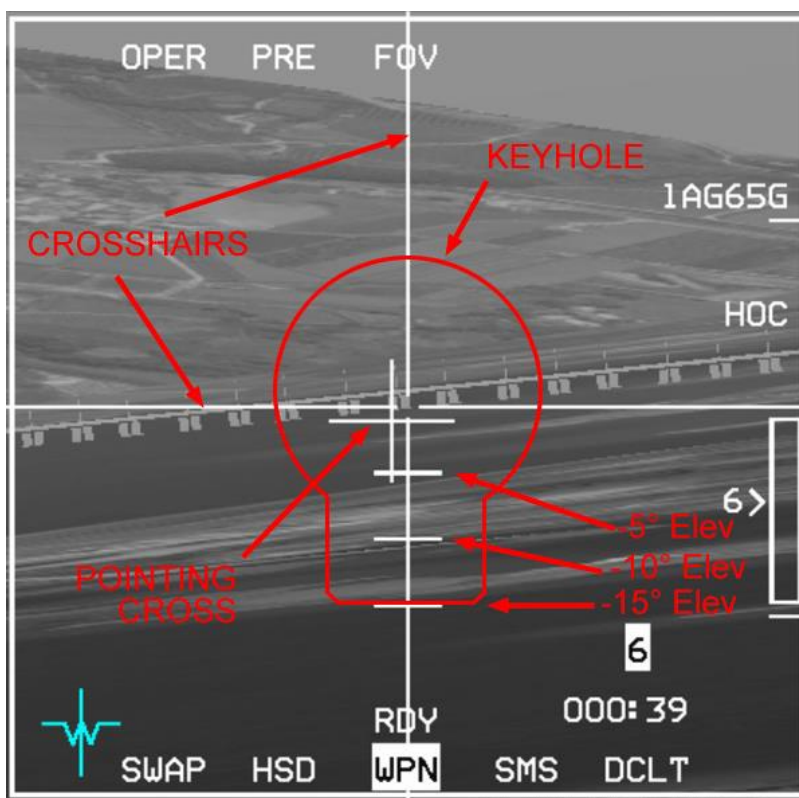

Figure 91 AGM-65D/G keyhole
2. Maximum gimbal offset angle: AGM-65A = 15°; AGM-65B = 10°; AGM-65D/G = keyhole (see Figure 91 below).